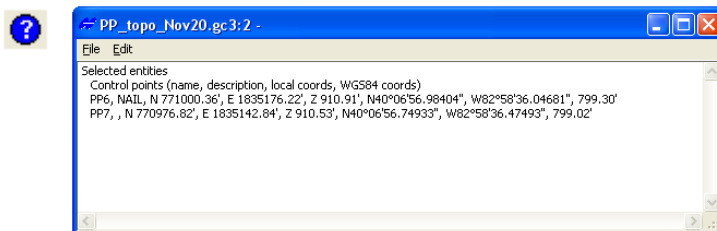

Figure 9-8. Information on Selected Entities
2. Click the activated **information** button on the toolbar. A text file opens, displaying information on the selected control points (Figure 9-8). Any modification to this text file has no affect on the values stored in the control file.